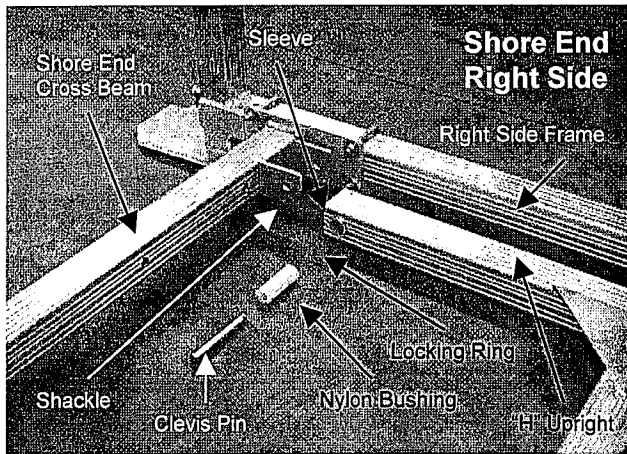
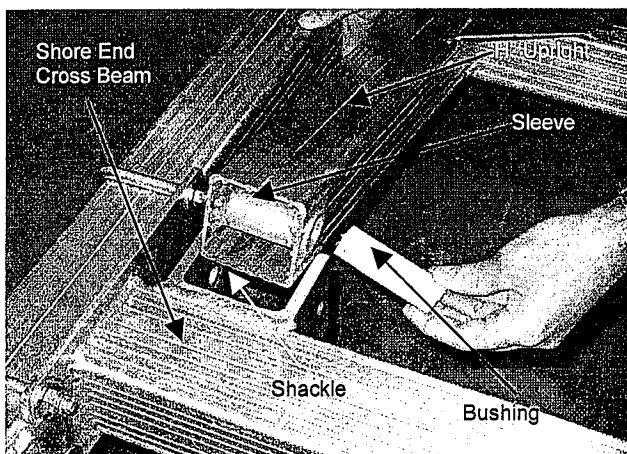
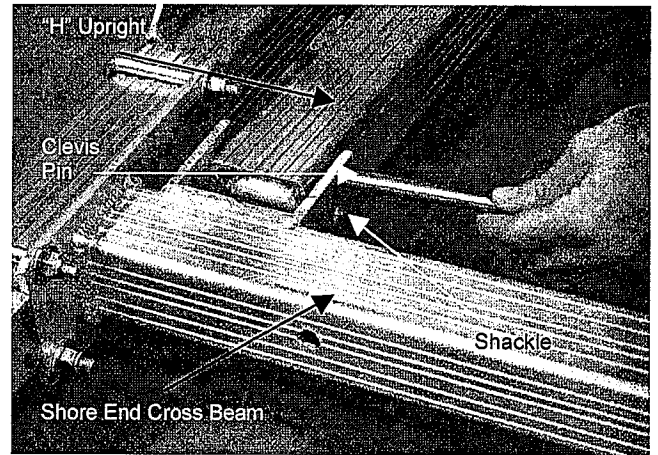

FIG.5
FIG.6
FIG.7
1. Locate one of the 2 "H" uprights (they are identical). Attach one upright to the shore end cross beam shackle as follows (See FIG.5, 6, 7, 8, 9). Slide the plastic bushing into the sleeve on the "H" upright as shown in FIG. 6. Place the "H" upright into the shackle and slide the clevis pin through the shackle and bushing (See FIG. 7). Then install the locking ring into the hole on the end of the clevis pin (See FIG.8 and 8A). Repeat the above procedures on the other side of the shore end "H" upright.